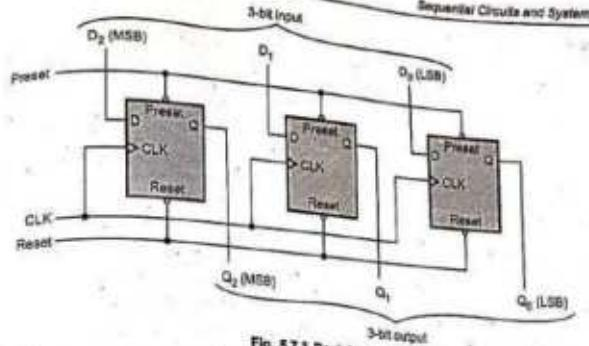

Fig. 5.7.3 Register
- Fig. 5.7.3 shows 3-bit register using three D flip-flops.